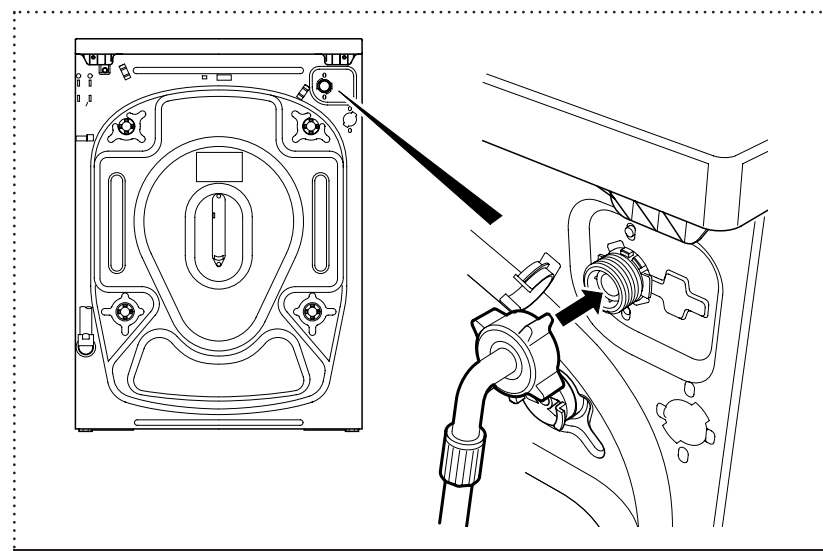

Figure 7
- 1 Connect the angled end of the fill hose to the cold water inlet on the rear of your Washer Dryer by screwing the threaded connector clockwise (fig 7). Take care not to overtighten the connection. Hand tight is sufficient.